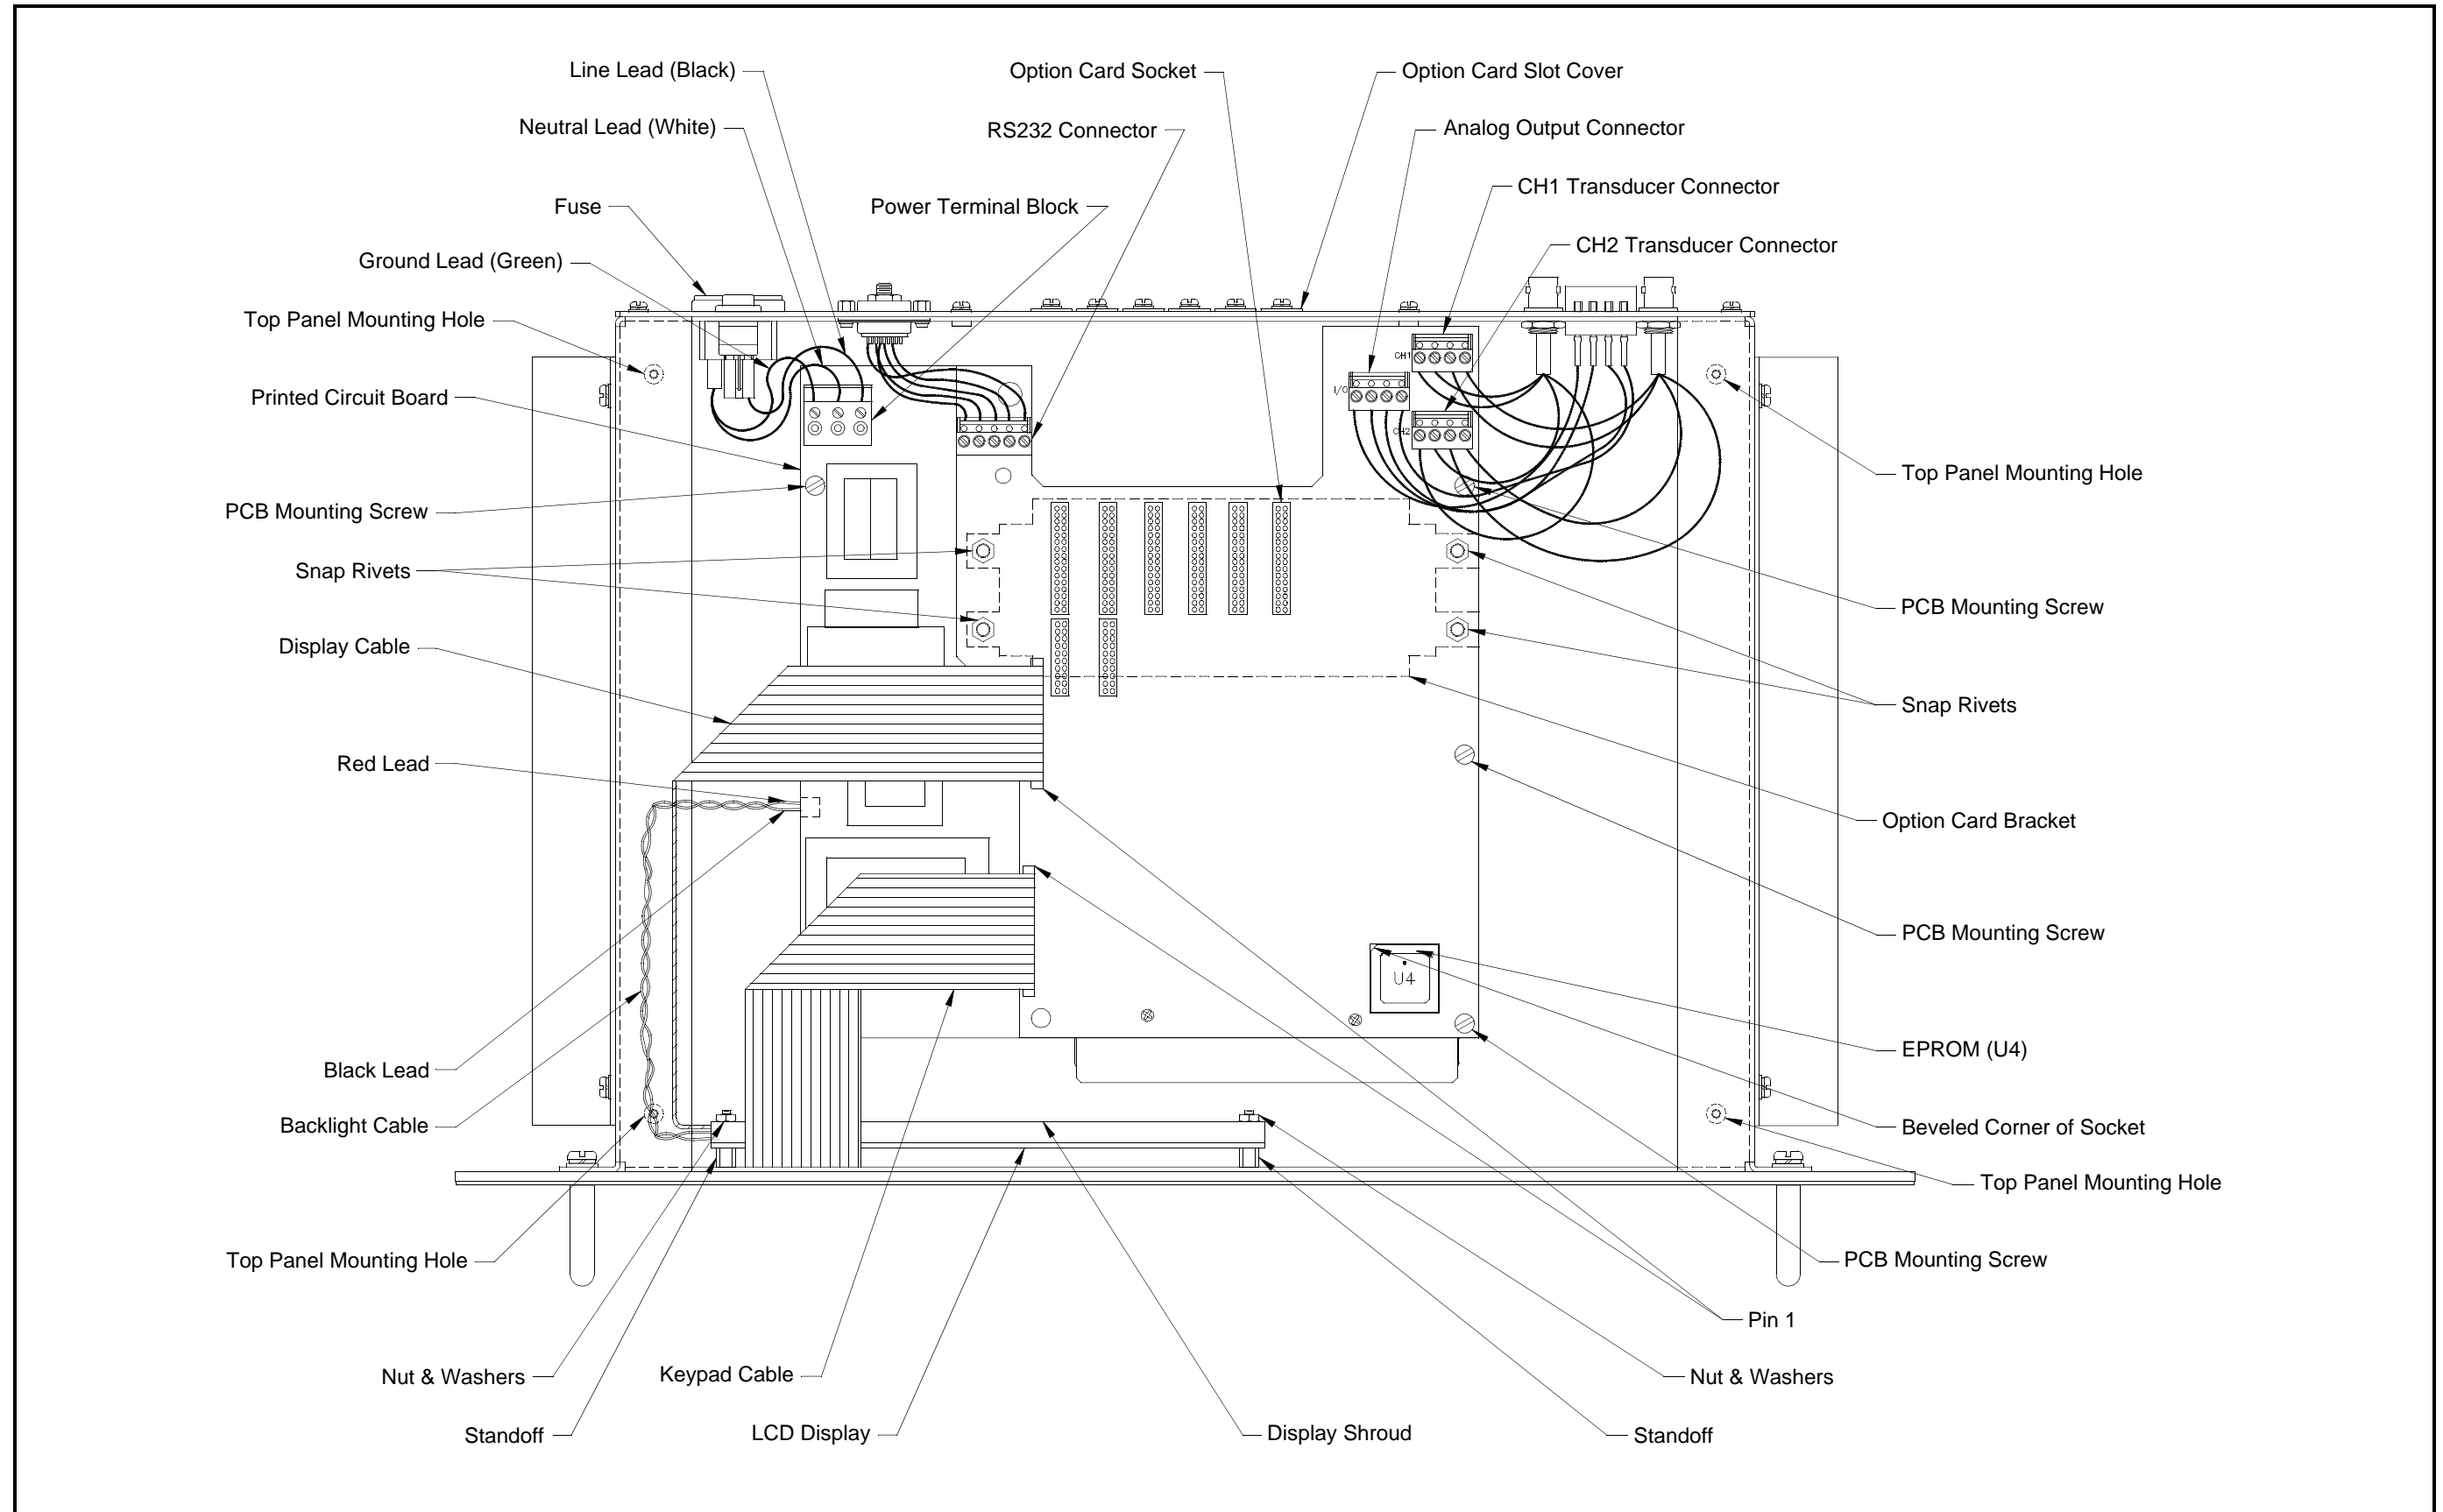

Figure B-2: Model DF868 Rack Mount Console Assembly - Drawing #705-849
Refer to Figure B-2 on page B-11 and complete the following steps:
EPROM replacement may be required to replace a defective chip or to upgrade to a newer software version. To replace the EPROM, refer to Figure B-2 on page B-11 and complete the following steps:
To replace the LCD display, refer to Figure B-2 on page B-11 and complete the following steps:
5. Install the RS232, ANALOG OUT and TRANSDUCER connectors onto the printed circuit board at the locations indicated in Figure B-2 on page B-11. Make sure the marked pin #1 sides of the connectors face the right side (keypad side) of the enclosure.